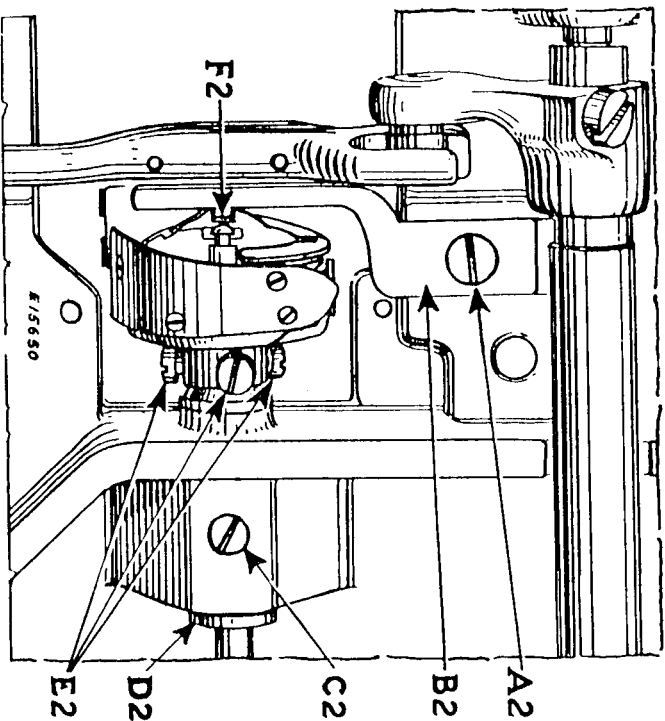
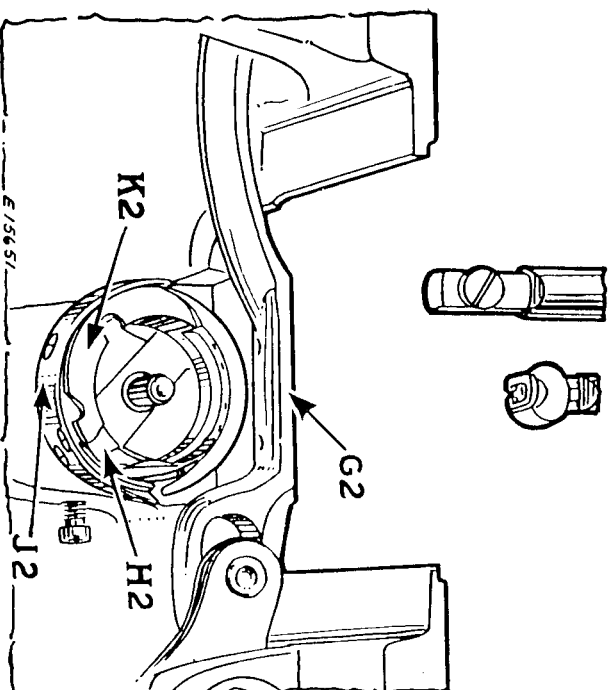
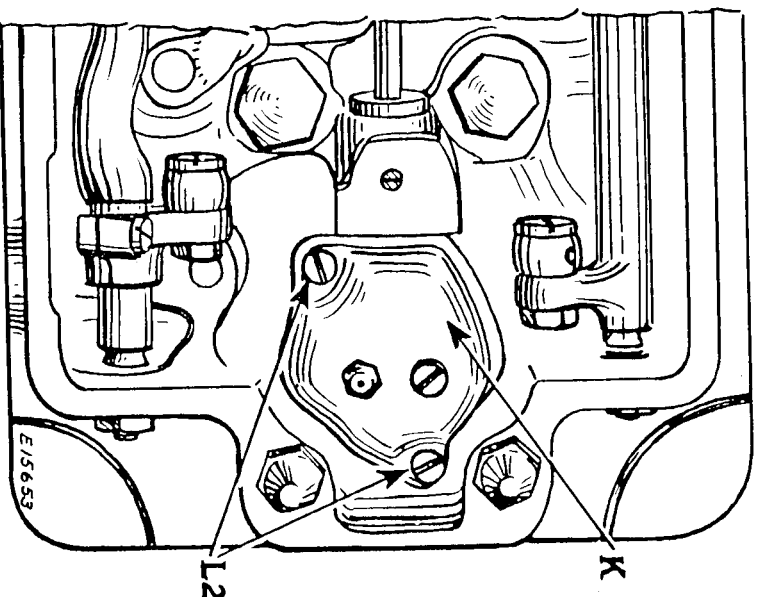

FIG. 26. View of Underside of Machine
Fig. 27. Showing Correct Position of Thread Guard and Bobbin Case Holder for Removal of Sewing Hook
Fig. 28. Removing Lower Gear Case Cover for Hook Shaft Removal
In case the hook is not correctly timed, loosen the three screws (E2, FIG. 26) in the hub of the hook. These three screws can be reached from the top of the machine bed through the opening left by the re-
moval of the throat plate, although, for purposes of illustration, the screws are shown only in the view of the underside of the machine in FIG. 26. Rotating the balance wheel of the machine will bring these screws, one at a time, directly under the throat plate opening where they can be easily reached with a screwdriver from the top of the machine bed.
The hook should be set as close as possible to the needle without touching. If the hook is too close to the needle or too far away from it, loosen the three screws (E2) and the bushing screw (C2, FIG. 26) and drive the bushing (D2, FIG. 26) in or out, as may be required, until the hook just clears the needle, being very careful not to damage the bushing, then securely tighten the bushing screw (C2) and the three screws (E2).
Remove the needle, slide plate and bobbin case. Take out the screw (A2, Fig. 26) and remove the bobbin case holder position bracket (B2, Fig.
26). Loosen the three set screws (E2, Fig. 26) in the hub of the hook, then turn the balance wheel over toward you until the feed bar (G2, Fig. 27) is raised to its highest position. Turn the sewing hook until the thread guard (J2, Fig. 27) is at the bottom, as shown in Fig. 27, and turn the bobbin case holder (K2, Fig. 27) until it is in the position shown in Fig. 27. The sewing hook can then be removed from the hook shaft.
When placing a new sewing hook on the shaft, have the thread guard (J2) of the hook at the bottom and the bobbin case holder (K2) turned to the position shown in Fig. 27, so that the hook will clear the feed bar (G2).
When the hook is in position on the shaft, turn the bobbin case holder (K2, Fig. 27) until the notch (H2, Fig. 27) is at the top, then replace the bobbin case holder position bracket (B2, Fig. 26) being careful to see that the position stud (F2, Fig. 26) enters the notch at the top of the bobbin case holder, as shown in Fig. 26, then securely
fasten the position bracket by means of the screw (A2, Fig. 28). Replace the needle and time the sewing hook as instructed on pages 20 and 21. When tightening the three screws (E2, Fig. 26) in the hub of the hook, draw the hook shaft toward the needle bar end of the machine and press the hook toward the balance wheel to take up the end play in the shaft. Then replace the bobbin case and slide plate.
Remove the sewing hook as instructed on page 22. Take out the two screws (L2, Fig. 28) and remove the cover of the gear case (K), then wipe the grease from the gears.
Replace the gear case cover and fasten it in place with the two screws (L2, FIG. 28).